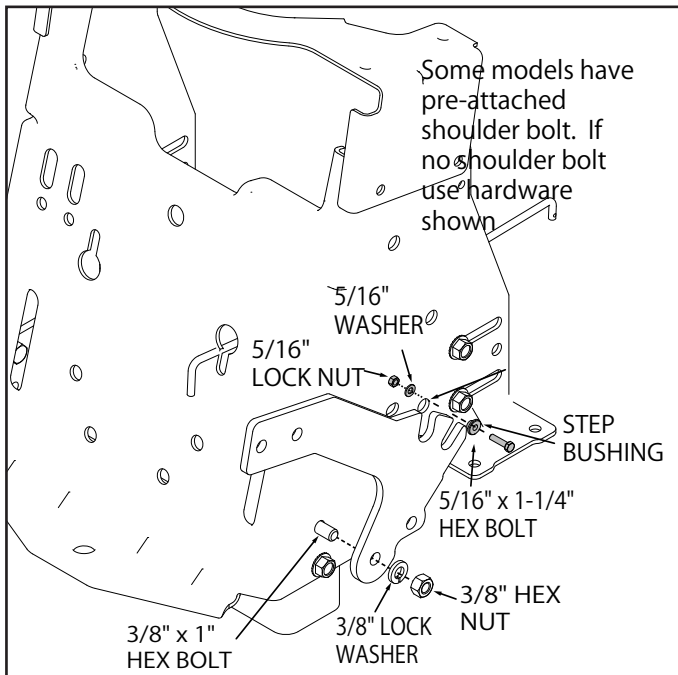

FIGURE 6
- 2A. Place the second notch in top of weight bracket arm (2) onto shoulder bolt in side of drawbar. Secure bottom of arm to drawbar using a 3/8-16 x 1" hex bolt (3), a 3/8" lock washer (9) and a 3/8-16 hex nut (11). Repeat on other side. See figure 6.
- 2B. Secure top of weight bracket arm (2) to side of drawbar using front notch in arms. Use two 5/16-18 x 1-1/4" hex bolt (4), step bushing (13), 5/16" washer (4) and 5/16" lock nuts(12). Repeat on outhar side. See figure 6.